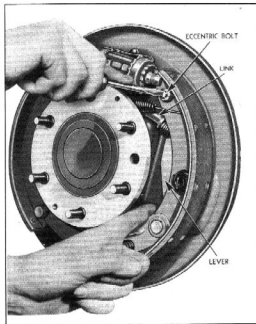

Fig. 21—Adjusting Rear Brake Toggle
1. Remove brake drum and loosen eccentric bolt lock nut, Fig. 21.